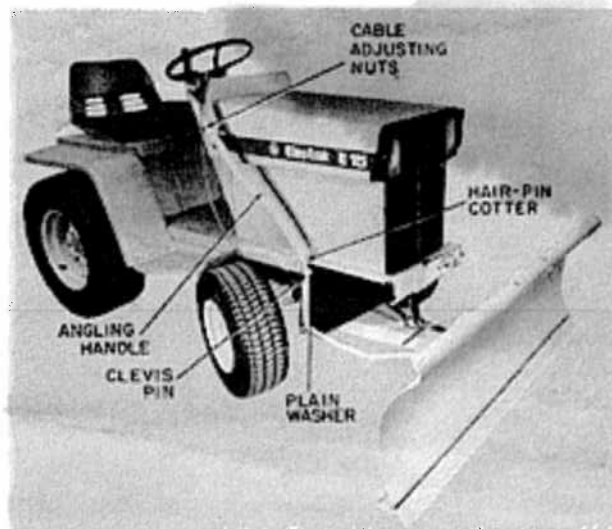

Figure 1
Attach the Mounting Bracket by pushing it into front stab mounts (Fig. 1). To mount the Snow/Dozer Blade to the bracket, proceed as follows:
2. Attach angling handle to right Mounting Bracket clevis pin. (The right side as determined by sitting on the tractor seat.) Secure with 5/8 in. plain washer and hair-pin cotter. See Fig. 1.
NOTE: The cable assembly must be adjusted properly to allow full blade angle locking with the hand lever released and to allow the locking block to clear the pivot plate by 1/8 inch with hand lever depressed. If adjustment is necessary, loosen the cable adjusting nuts (see Fig. 1), and reposition the cable sheath so the 1/8 inch clearance is obtained with the lever depressed. Tighten the nuts with the cable in this position.
Wear Blade - For normal use of the Snow/Dozer Blade, the wear blade angle is set at the same angle as the back blade as shown in Figure 1. If the working area is very rough, the cutting action of the wear blade should be reduced by loosening the four bolts on the bottom back side and moving the wear blade slightly forward. When retightened in this position, the cutting is reduced. Alternately, if more aggressive cutting is desired, loosen the four bolts and move the wear blade rear and upward.